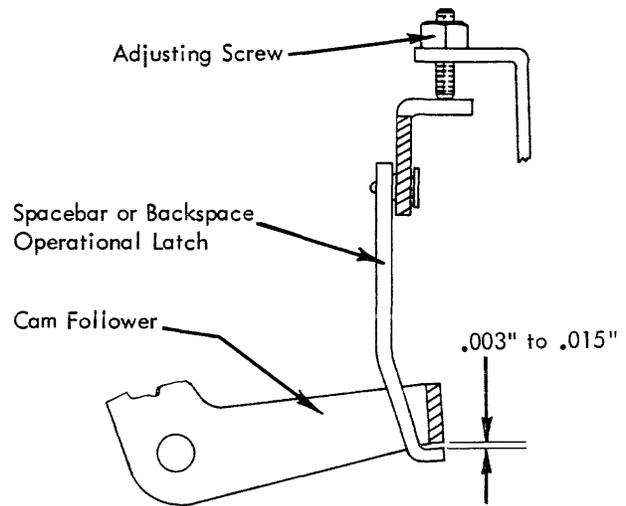
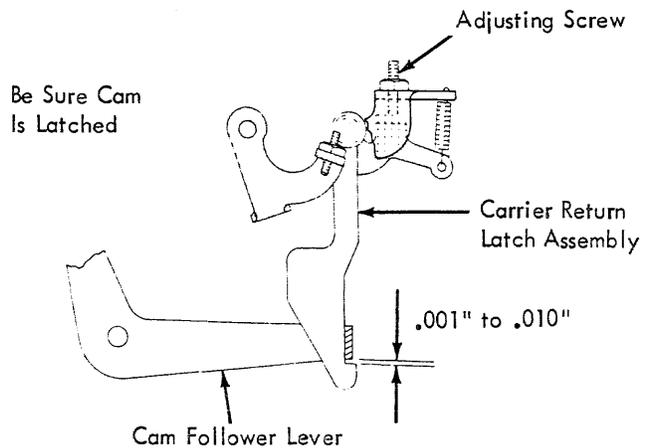

FIGURE 114B. Latch Height
FIGURE 115. Latch Height (11 Inch.)
3. Operational Latch Height - The adjustable latch screws (Fig. 114) (eccentric stop on tab latch) for the backspace, spacebar, and tab operational latches should be adjusted so that the latches will pass under the cam follower lever with a clearance of  $.003$ " to  $.015$ " (Fig. 114B). The carrier return operational latch adjustable stop should be adjusted so that the latch will pass under the cam follower with  $.003$ " to  $.010$ " clearance (Fig. 115).